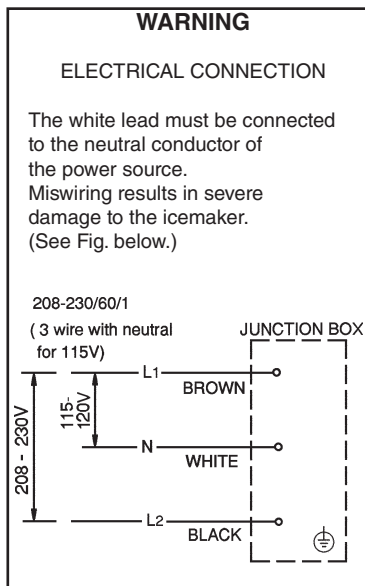

Fig. 8a
- On single phase models only, the white lead must be connected to the neutral conductor of the power source. Miswiring results in severe damage to the icemaker. See Fig. 8a.